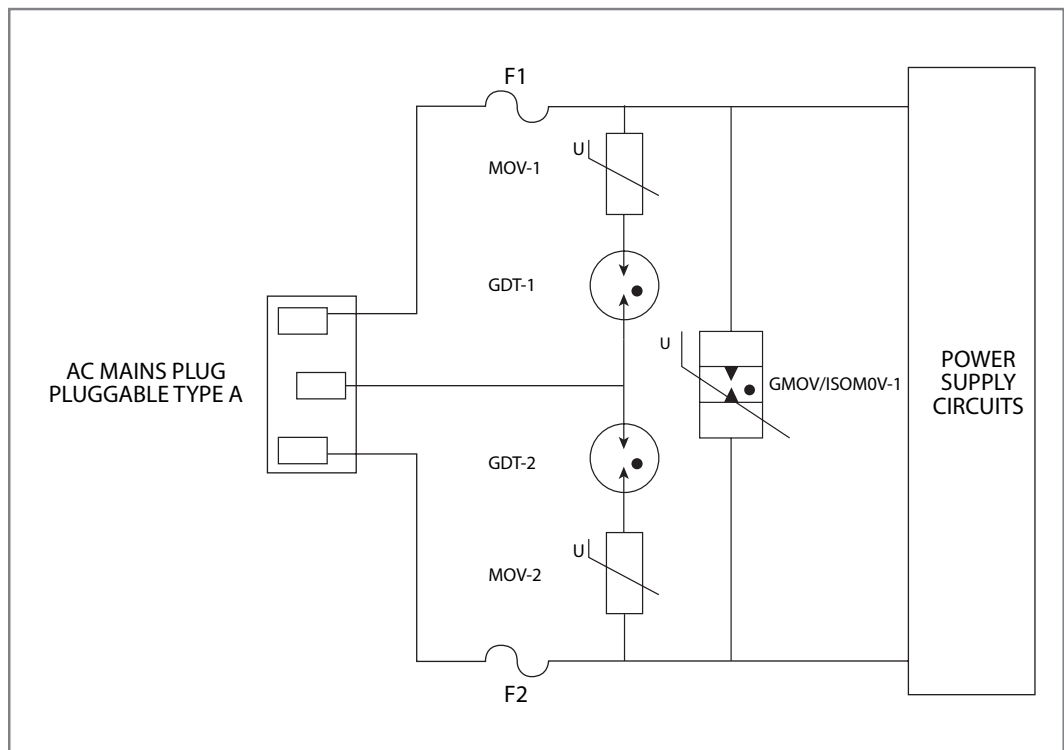

Figure 9 - Schematic Showing Compliance with UL/IEC 62368-1
One way to comply with UL/IEC 62368-1 is to add protection from Line (L) and/or Neutral (N) to Protected Earth (PE) as shown in this example (Figure 9):
Currently, Bourns does not offer a GMOV™ or IsoMOV™ component with the high voltage specification (> 1 kV) to address the requirement between line-to-earth and neutral-to-earth. Therefore, discrete components must be used, as shown in Figure 9.